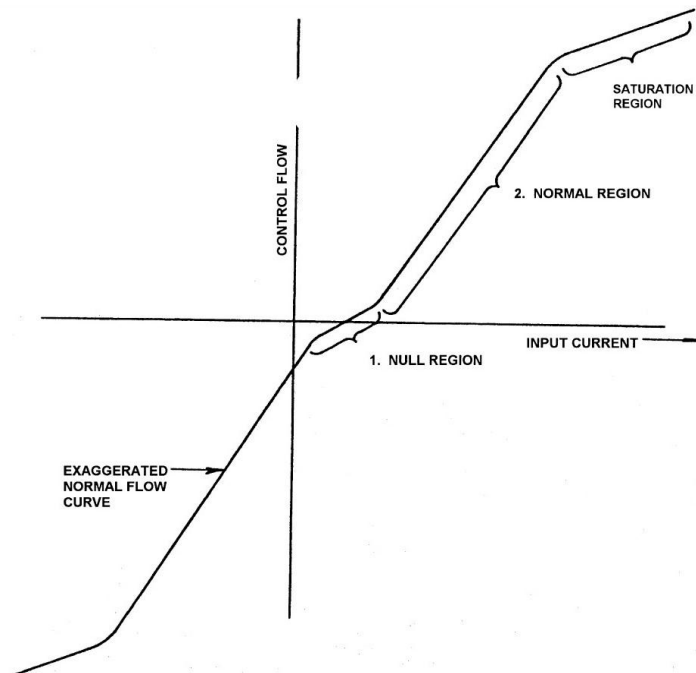

Figure 60
The slope of the control flow versus input command curve in any specific operating region, expressed in l/min/A, gal/min/V, etc. Three operating regions are usually significant with flow control servovalves: (1) the null region, (2) the region of normal flow control, and (3) the region where flow saturation effects may occur. Where this term is used without qualification, it is assumed to be defined by the region of normal flow gain. See Figure 60.
The region where flow gain decreases with increasing command. See Figure 60.